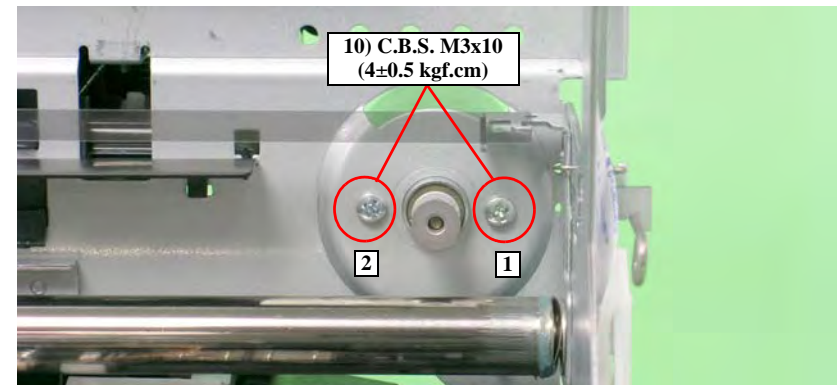

Figure 4-159. Removing the CR Motor
- Tighten the screws in the order shown in Figure 4-159